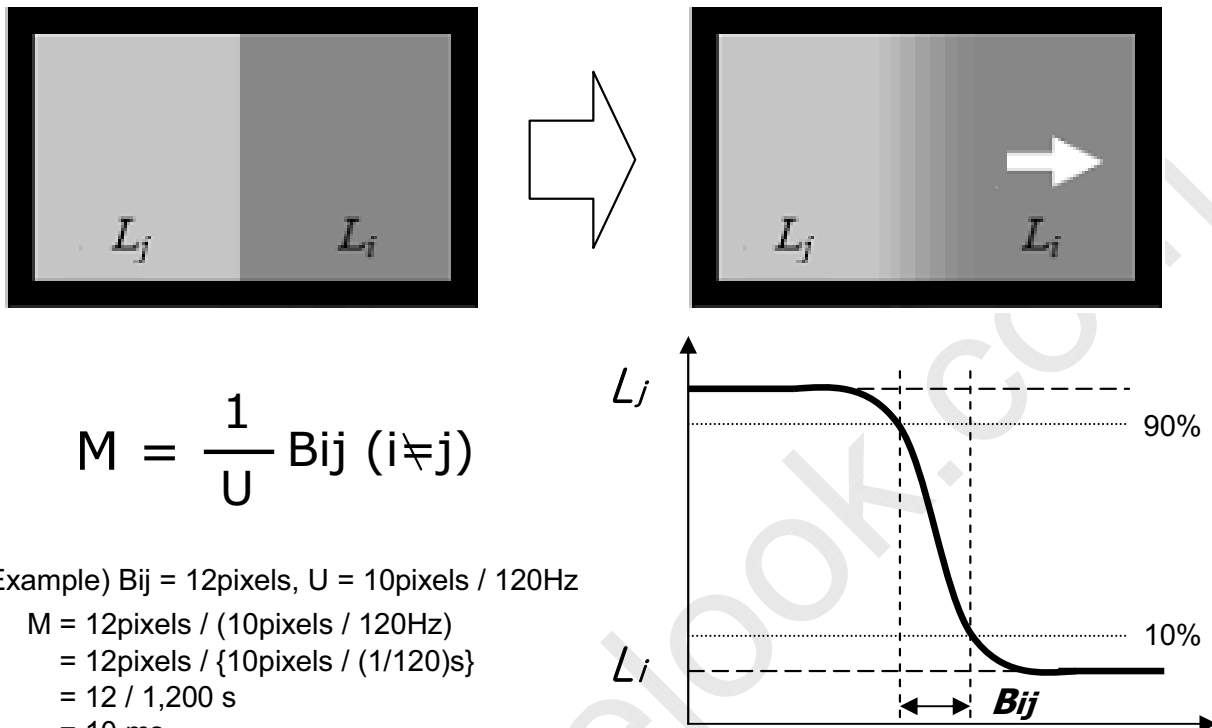

FIG. 4 MPRT
5. MPRT is defined as the 10% to 90% blur-edge width Bij (pixels) and scroll speed U (pixels/frame) at the moving picture. For more information, see FIG 4